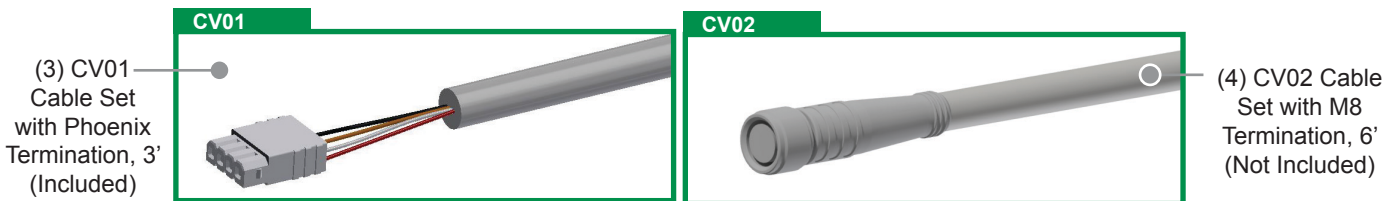

Figure 1B. Connection Verification cables
A new FE+ (Connection Verification) comes with only the base connector (1), **seal sets are sold seperately. Users must install the seal set into the connector before use.** If the connector includes Connection Verification, a CV01 cable (3) will included, a CV02 cable will not be included. As shown in Figure 1B.